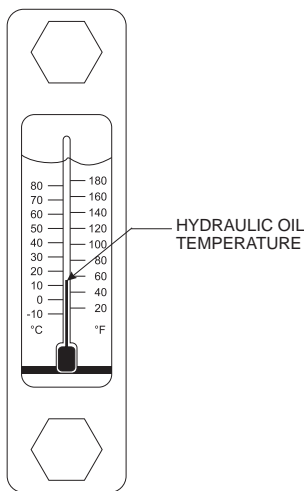

Figure 31. Hydraulic Oil Temperature Gauge
5. Let the pump cycle until the hydraulic oil temperature (Figure 31) is approximately 50–60°F (10–16°C).